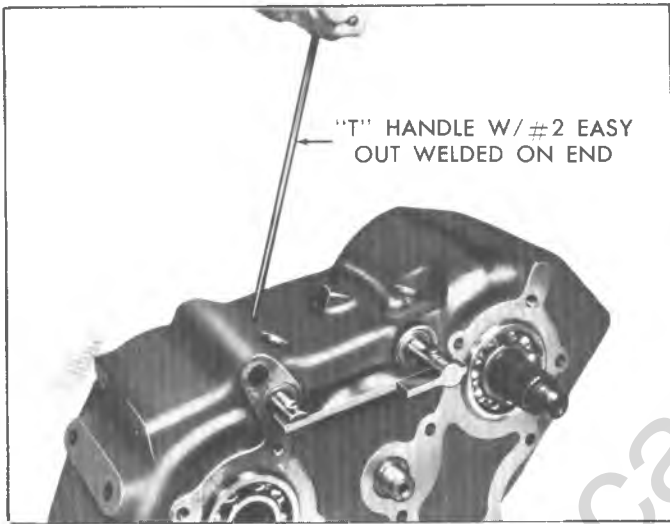

Fig. 6C-Removing Shift Fork Pins
3. Position both shift rails in neutral and using a long, narrow punch, drive shift fork pins through shift rails into the case (fig. 6C).